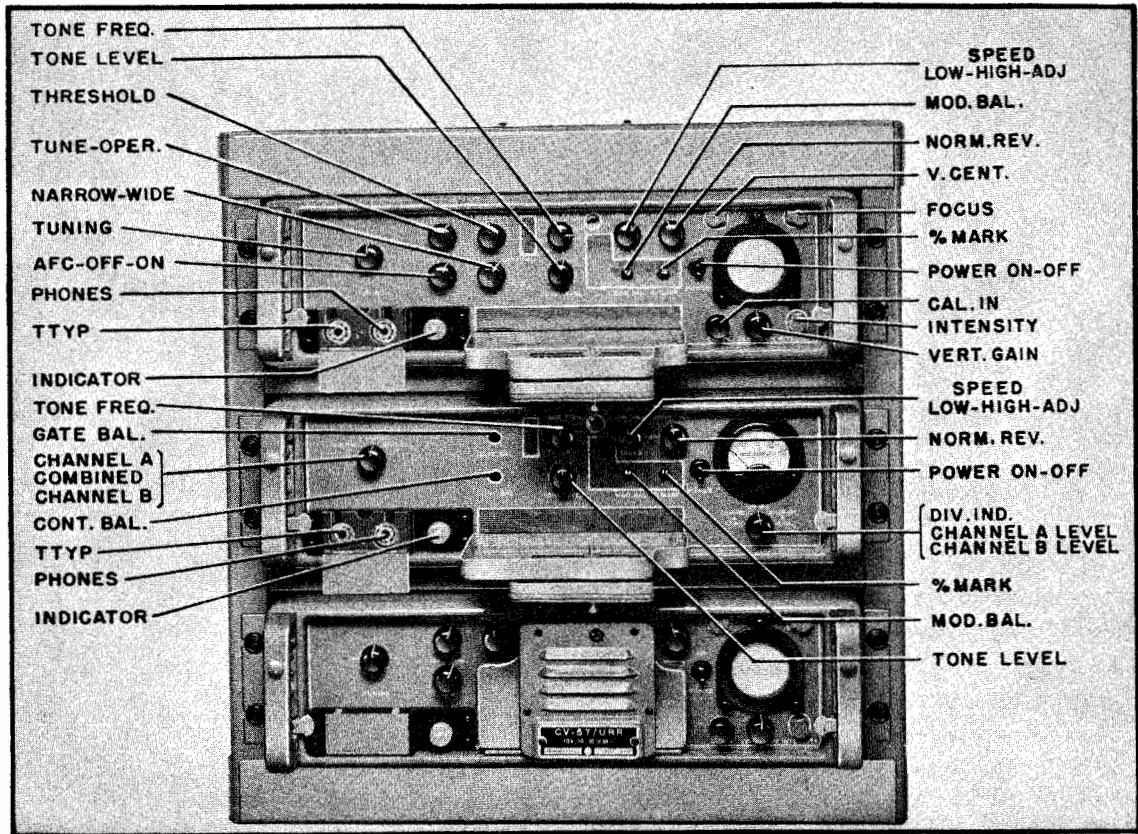

Figure 4-1. Operating Panel Controls
(3) Turn Comparator POWER switch to ON. Neon pilot light on front panel should light after about ten seconds.
(4) Set the TONE FREQ switch, S602, under the front panel cover of the Comparator (see Figure 4-1) to the desired frequency. If an external tone frequency in place of internal tone is used set TONE FREQ to EXT and adjust the frequency of the tone generator. Adjust signal to suitable output level with TONE LEVEL control.
(5) Set SPEED switch, S601, on Comparator to LOW for normal-(60 words per minute) or HIGH for high-speed multiplex or speeds greater than 60 words per minute.
(6) Plug a 0-100 ma milliammeter, such as Navy Model OE (connected to a phone plug with the tip to the "minus" and the shank to the "plus" terminal of the meter), into the TTYP jack on the front panel. With no keying signal (steady mark) adjust the loop current control, at the teletype power supply, for 60 ma. When the unit is keying, the current indication on the meter will drop.
(7) With channel A (top Converter unit) receiving signals, set CHANNEL A-COMBINED-CHANNEL B switch to CHANNEL A position.
(8) Connect the external test oscilloscope to the TONE OUTPUT or PHONE jack, J1303 or J1602, of Comparator and with TONE FREQ on EXT, TONE LEVEL control, R629, on 10, no tone input adjust MOD BAL control, R633, for a minimum of transients.
(10) Adjust GATE BAL control, R923 (see Figure 4-1), as follows:
(11) Adjust CONT BAL control, R905 (see Figure 4-1), as follows:
Tuning is accomplished with the associated radio receiver, but the following adjustments are necessary on the CV-57/URR, AN/URA-6 and AN/URA-7 equipments (see Figure 4-1):